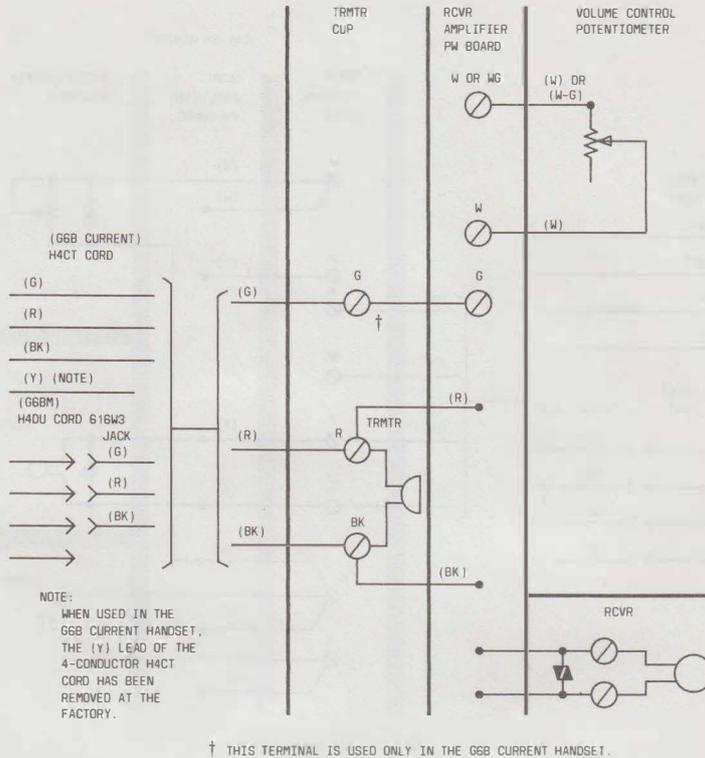

Fig. 3—G6B Current (Since 1977) and G6BM Handset, Connections
- Add New Fig. 3, 6, and 8
- (1) Remove the transmitter cup, transmitter unit, and transmitter board assembly.
- (2) Remove the spade-tipped handset cord leads from the handset.
- (3) Install a 616W-type jack (ordered separately) by snapping the jack into the cutout provided on the transmitter cup. On G6- and G8-type handsets the white jack lead is not required and may be clipped off.
- (4) Connect and dress the leads from the 616W-type jack to the transmitter board terminals as shown in Fig. 3, 4, or 6.
- (5) Reassemble the transmitter board in the handset and replace transmitter cup on handset.